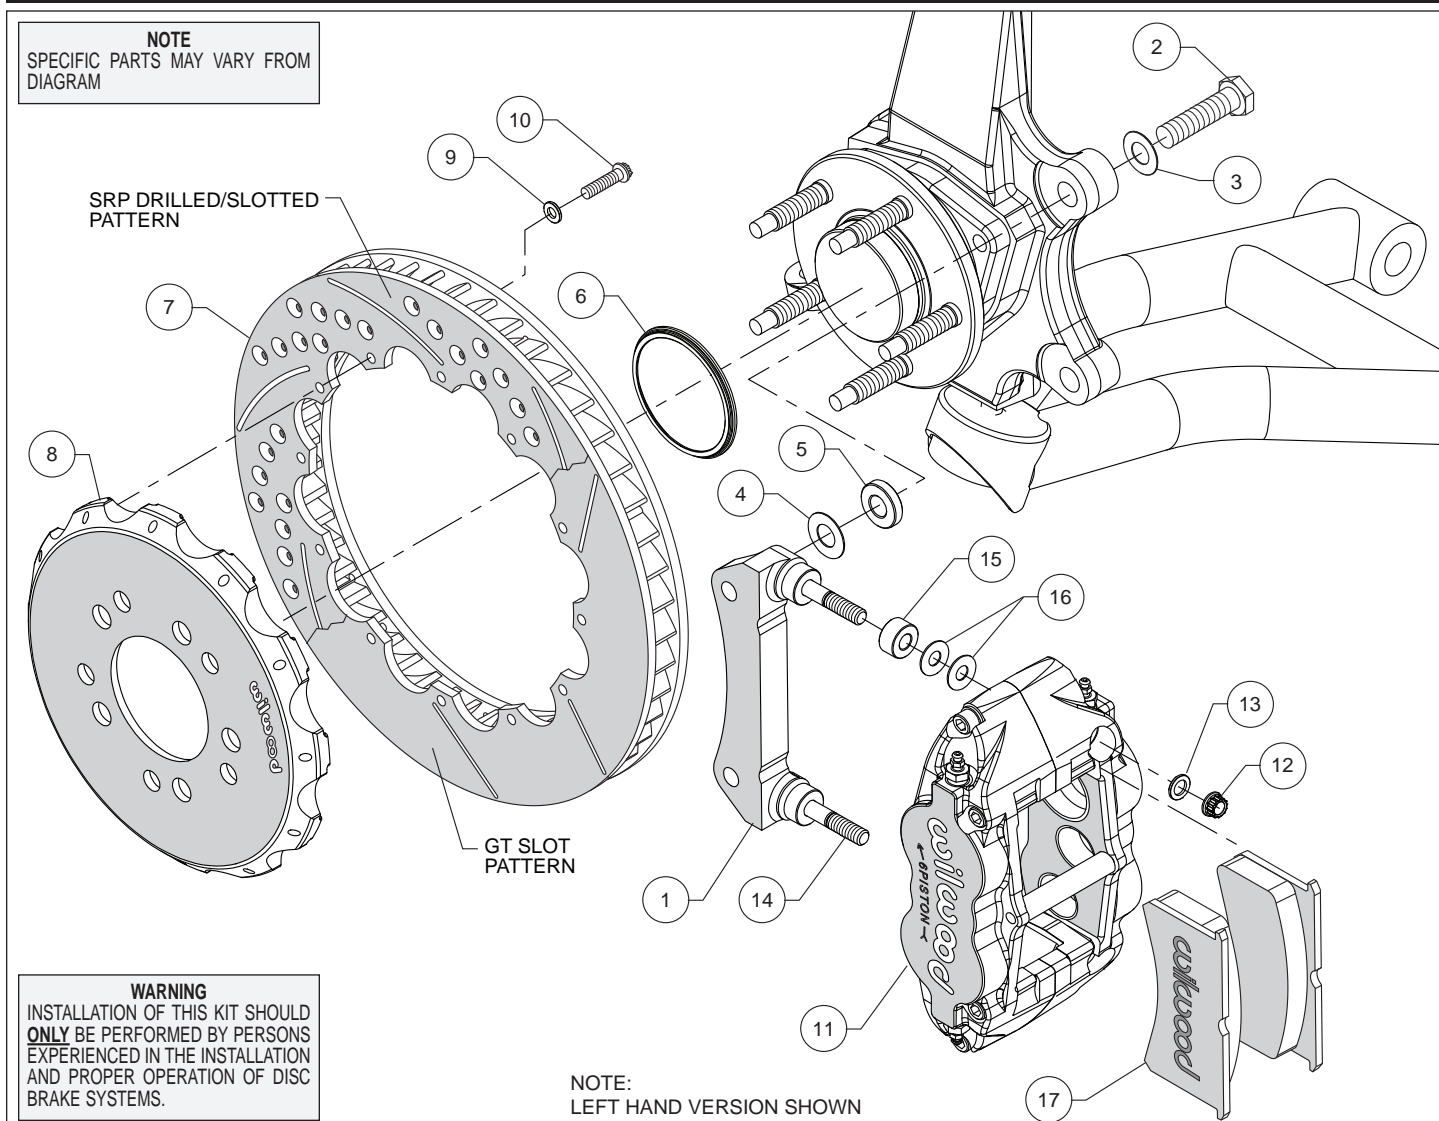
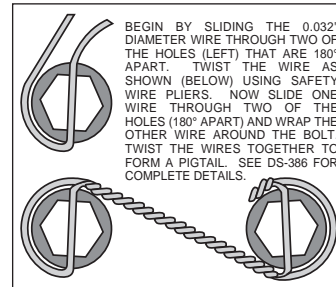

Figure 1. Typical Installation Configuration
Figure 3. Safety Wire Diagram
Assembly Instructions (numbers in parenthesis refer to the parts list and Figure 1 on the preceding pages):
- The caliper mount bracket (1) should initially be installed with clean, dry threads on the mounting bolts. Orient the bracket as shown in Figure 1, and install using bolts (2) and washers (3). Initially place one .033 thick shim (4) and spacer (5) on each bolt between the bracket and upright, Figure 1. Temporarily tighten the mounting bolts. **NOTE:** *The bracket must fit squarely against the mount bosses on the upright.* Inspect for interference from casting irregularities, machining ridges, burrs, etc. Later, after the caliper alignment has been checked, the mount bolts will be secured using red *Loctite*® 271.
- Orient the rotor (7) and the hat (8) as shown in Figure 1 and Photo 1. Attach rotor to hat using bolts (10) and washers (9). Using an alternating sequence, apply red *Loctite*® 271 to the threads, and torque to 155 **in-lbs**. For an added measure of security, the bolts may be safety wired using standard 0.032 inch diameter stainless steel safety wire as shown in Figure 3. Please refer to Wilwood's data sheet DS-386 (available at www.wilwood.com/Pdf/DataSheets/ds386.pdf) for complete safety wire installation instructions.
- Slide the rotor registration adapter (6) onto the axle register on the hub assembly with the smaller O.D. facing outward, Photo 2. Slide the hat/rotor assembly (7/8) onto the hub assembly. **NOTE:** *The hat must fit flush against the hub flange or excessive rotor run out may result.* Install three lug nuts (finger tight) to keep the hat/rotor assembly in place while continuing with the installation.
- NOTE:** *This kit contains distinct right and left hand calipers that must be mounted in a specific direction, as described below.* Lubricate the caliper mounting studs (14) with lightweight oil. Initially place two .035" thick shims (16), and spacer (15) on each stud as shown in Figure 1 and Photo 3. Mount the caliper (11) onto the bracket (1) using lock nuts (12) and washers (13), Figure 1. Ensure that the caliper is mounted so that the largest pistons are at the rotor exit end of the caliper, in relation to the direction of rotor rotation. Temporarily tighten the lock nuts and view the rotor through the top opening of the caliper. The rotor should be centered in the caliper, Photo 4. If not, adjust by adding or subtracting shims (4) between the bracket and the upright. Always use the same amount of shims on each of the two mounting bolts. Once the caliper alignment is correct, remove the bracket mounting bolts (2) one at a time, apply red *Loctite*® 271 to the threads, and torque to 77 ft-lb.